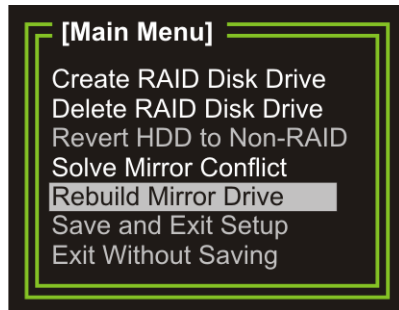

Figure D-18: Rebuild Mirror Drive
Step 1: In the RAID Setup Utility main menu, highlight **Rebuild Mirror Drive** (Figure D-18). Press **ENTER**.